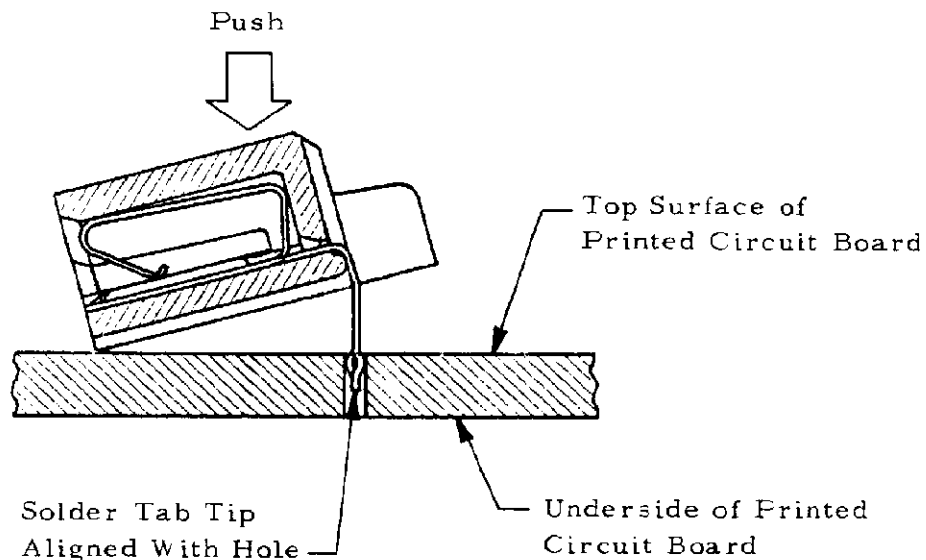

Figure 6
- (1) Align solder tab tips with holes in printed circuit board as indicated in Figure 6, and allow front of connector to rest on top surface of printed circuit board.
- (2) Apply pressure, with thumb or flat plate (optional), to top side of connector until it snaps into position.
- (3) Connector shall be tight against top surface of printed circuit board and all solder tabs shall protrude from underside.